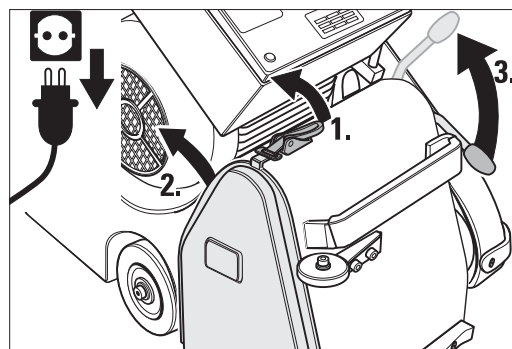

Fig. 7 Release the cover lock, remove the side cover and lower the tensioning roller by pulling up the lever.
- 7 Release the cover lock and remove the side cover on the right of the machine housing (Fig. 7).
- 8 To engage the sanding belt, pull the opposite lever upwards. This will lower the tensioning roller (Fig. 7).